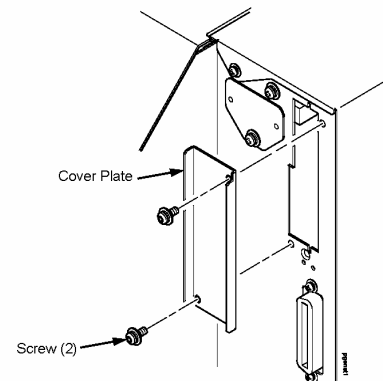

Figure 1a.
1. Use a Phillips head screwdriver to remove the two screws that secure the Cover Plate to the Interface Card slot. Set the plate and screws aside. **(Fig 1a)**